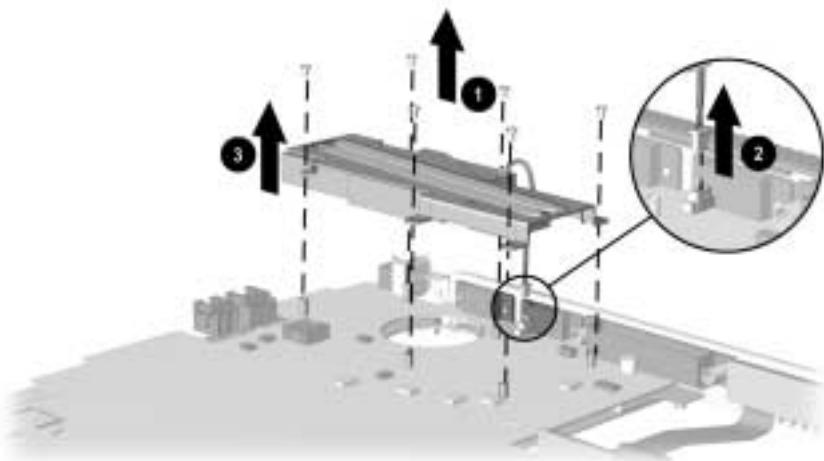

Figure 5-27. Removing the Fan and Heat Sink
3. Remove the six screws that secure the fan and heat sink to the system board ① (Figure 5-27).
4. Disconnect the fan cable from the system board ②.
5. Remove the fan and heat sink from the system board ③.